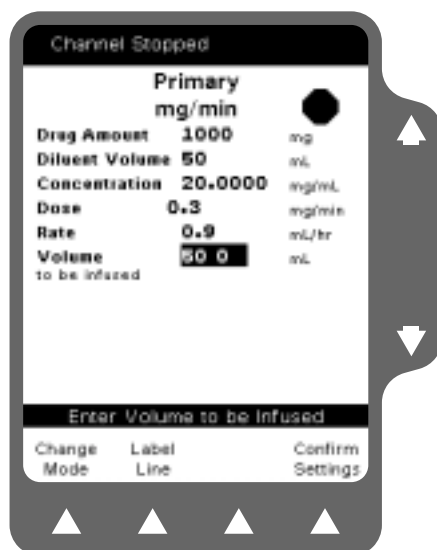

Figure 5-13 Enter Volume to be Infused
10. Use the ↓ key to highlight the Volume to be Infused field (Figure 5-13).